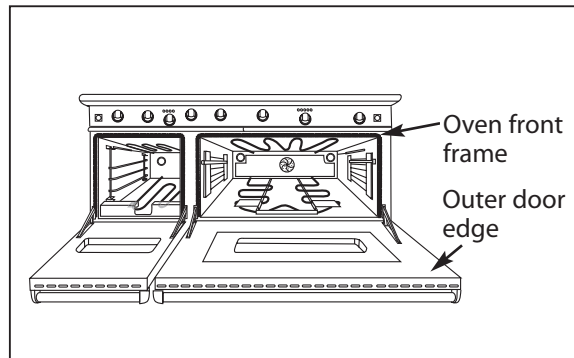

Fig. 11
- Clean the oven front frame and outer door edges. Wipe up large spillovers and grease. (see fig. 11)